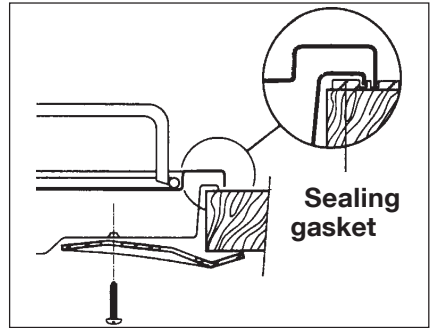

Fig. 8
- Fix the hob with the relevant fixing clamps (Fig. 8).